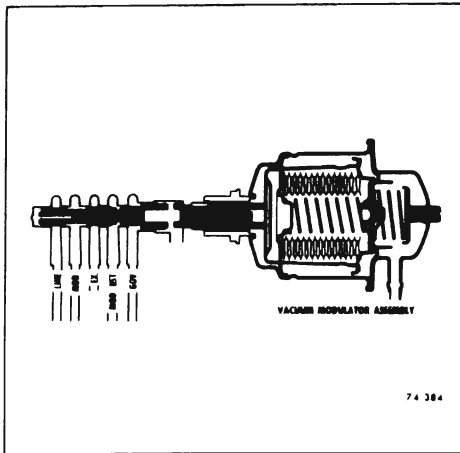

Figure 74-14 - Modulator Valve
f. Modulator Valve (See Figure 74-14)